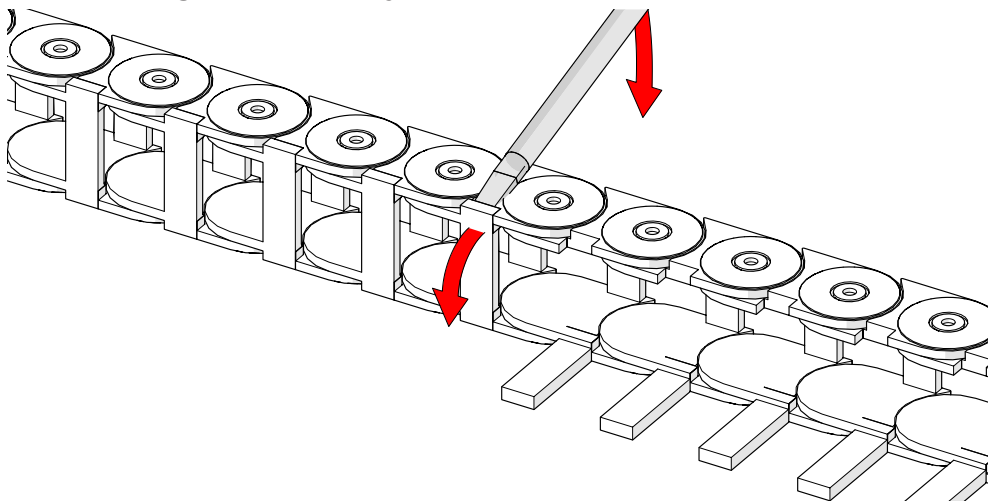

Fig. 110 - Unclip flaps from cable tray
1. Using the supplied 3 mm flat driver (Fig. 3), unclip the flaps of the cable tray (Fig. 110).